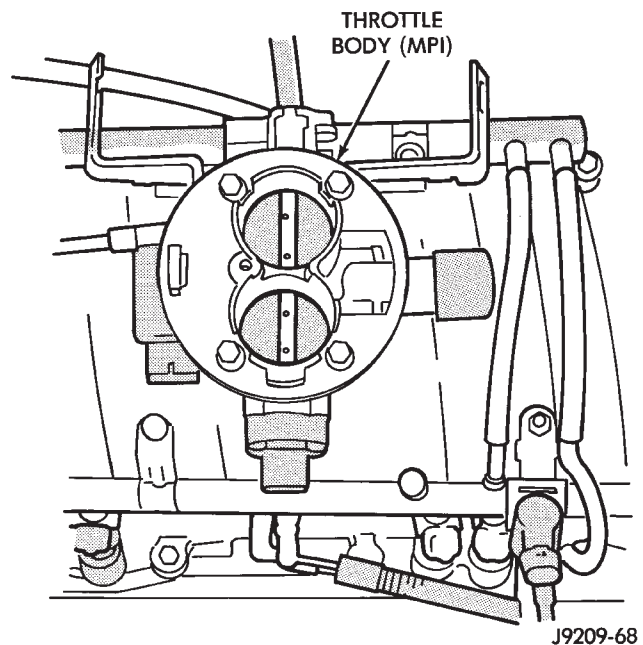

Fig. 7 Throttle Body Assembly (MPI)
(8) Remove the distributor cap and wires.
(9) Disconnect the coil wires.
(10) Disconnect the heat indicator sending unit wire.
(11) Disconnect the heater hoses and bypass hose.
(12) Remove the closed crankcase ventilation and evaporation control systems.
(13) Remove the A/C compressor bolts and set the compressor on the fan shroud.
(14) Remove the support bracket from the intake manifold and the mounting bracket.
(15) Remove intake manifold bolts.
(16) Lift the intake manifold and throttle body out of the engine compartment as an assembly.
(17) Remove and discard the flange side gaskets and the front and rear cross-over gaskets.
(18) Remove the throttle body bolts and lift the throttle body off the intake manifold (Fig. 7). Discard the throttle body gasket.